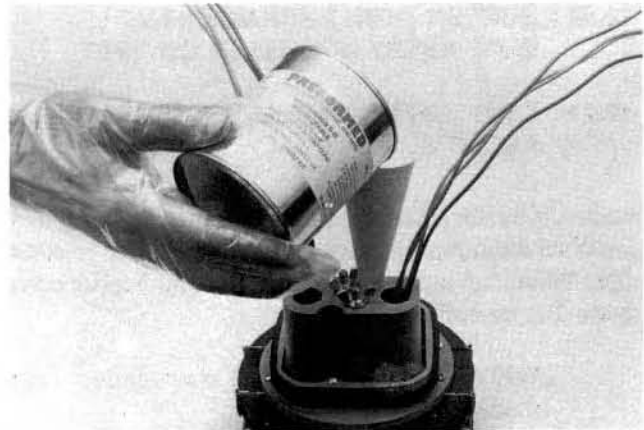

Figure 29
- 14.02 Support the cables and end plates so the resin cup is in a vertical position Figure 29.